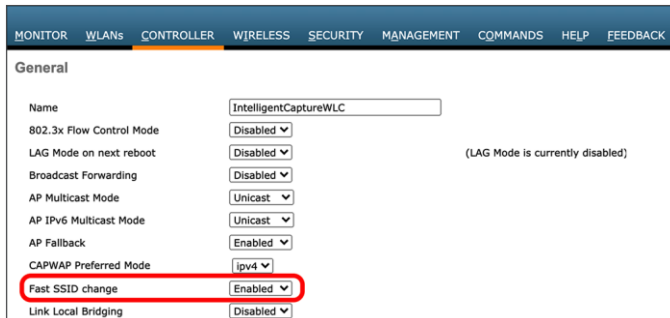

Figure 42.
1. Due to the unique behavior described above, we recommend that you enable Fast SSID change from the wireless settings (**Figure 42**).